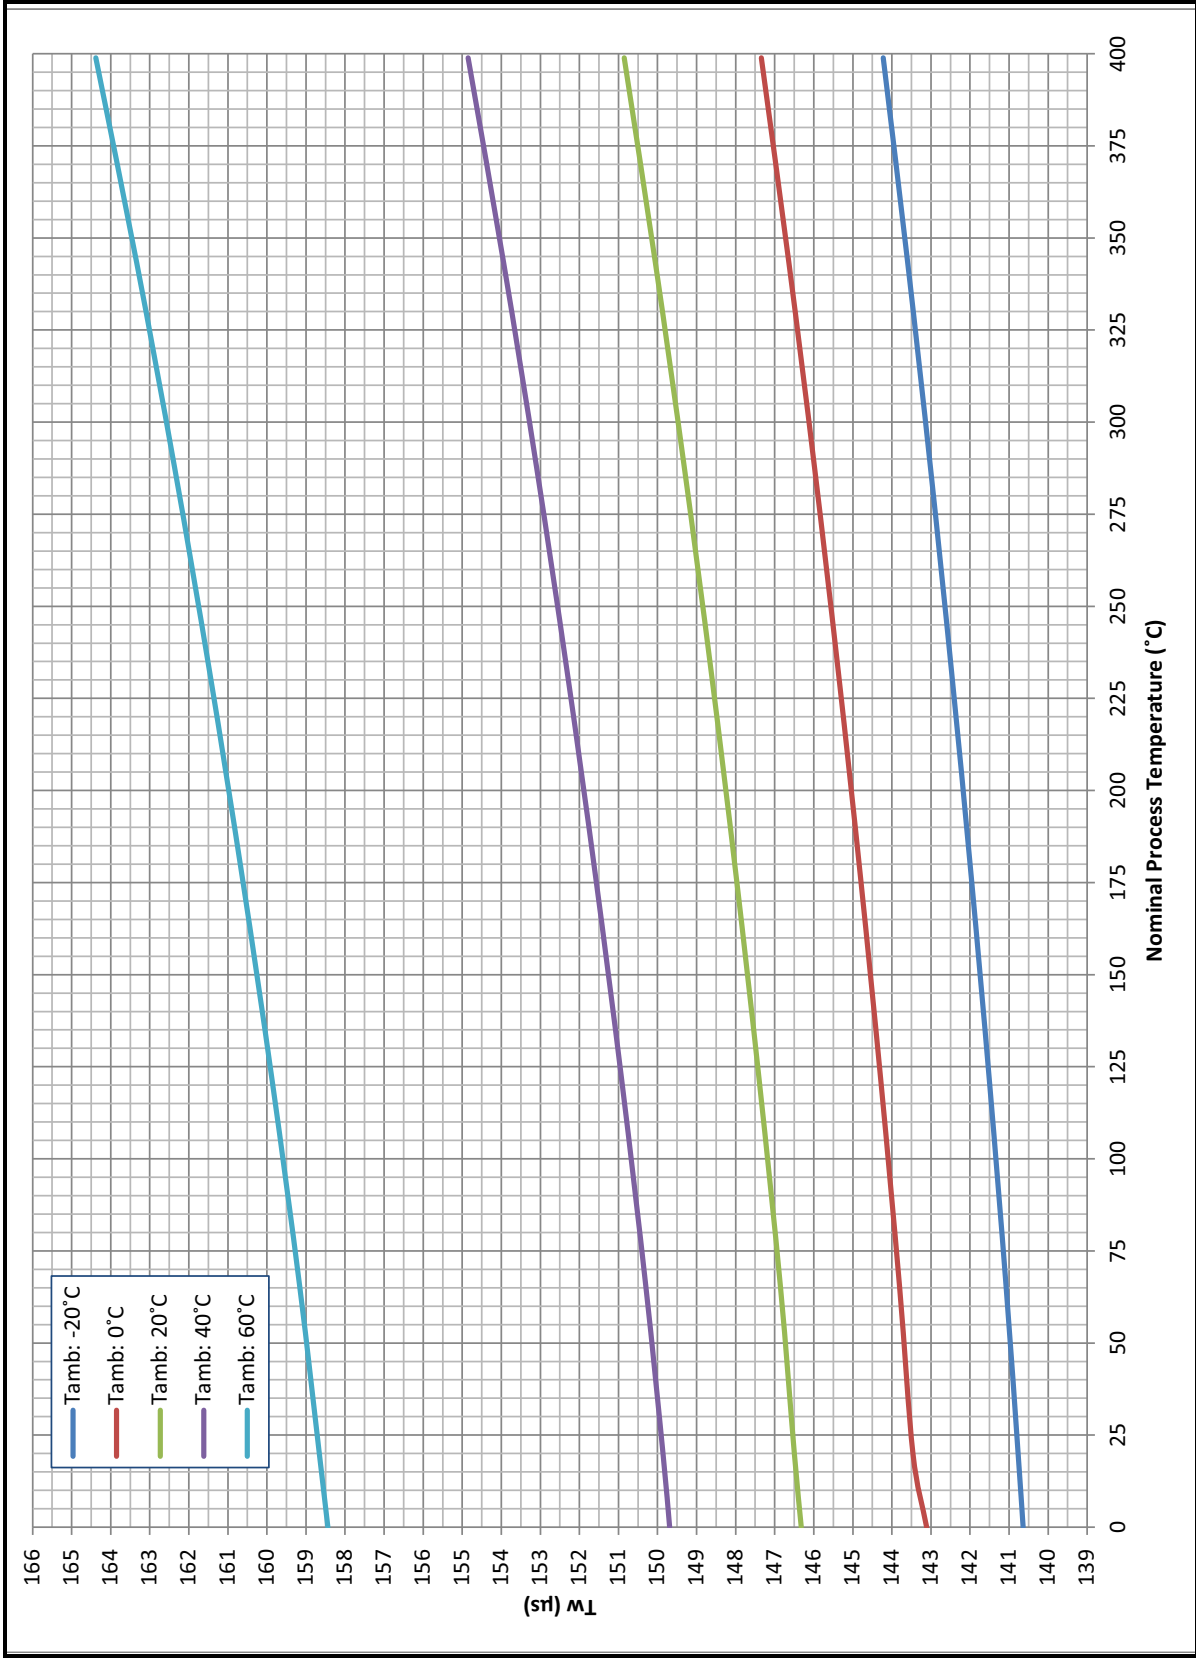
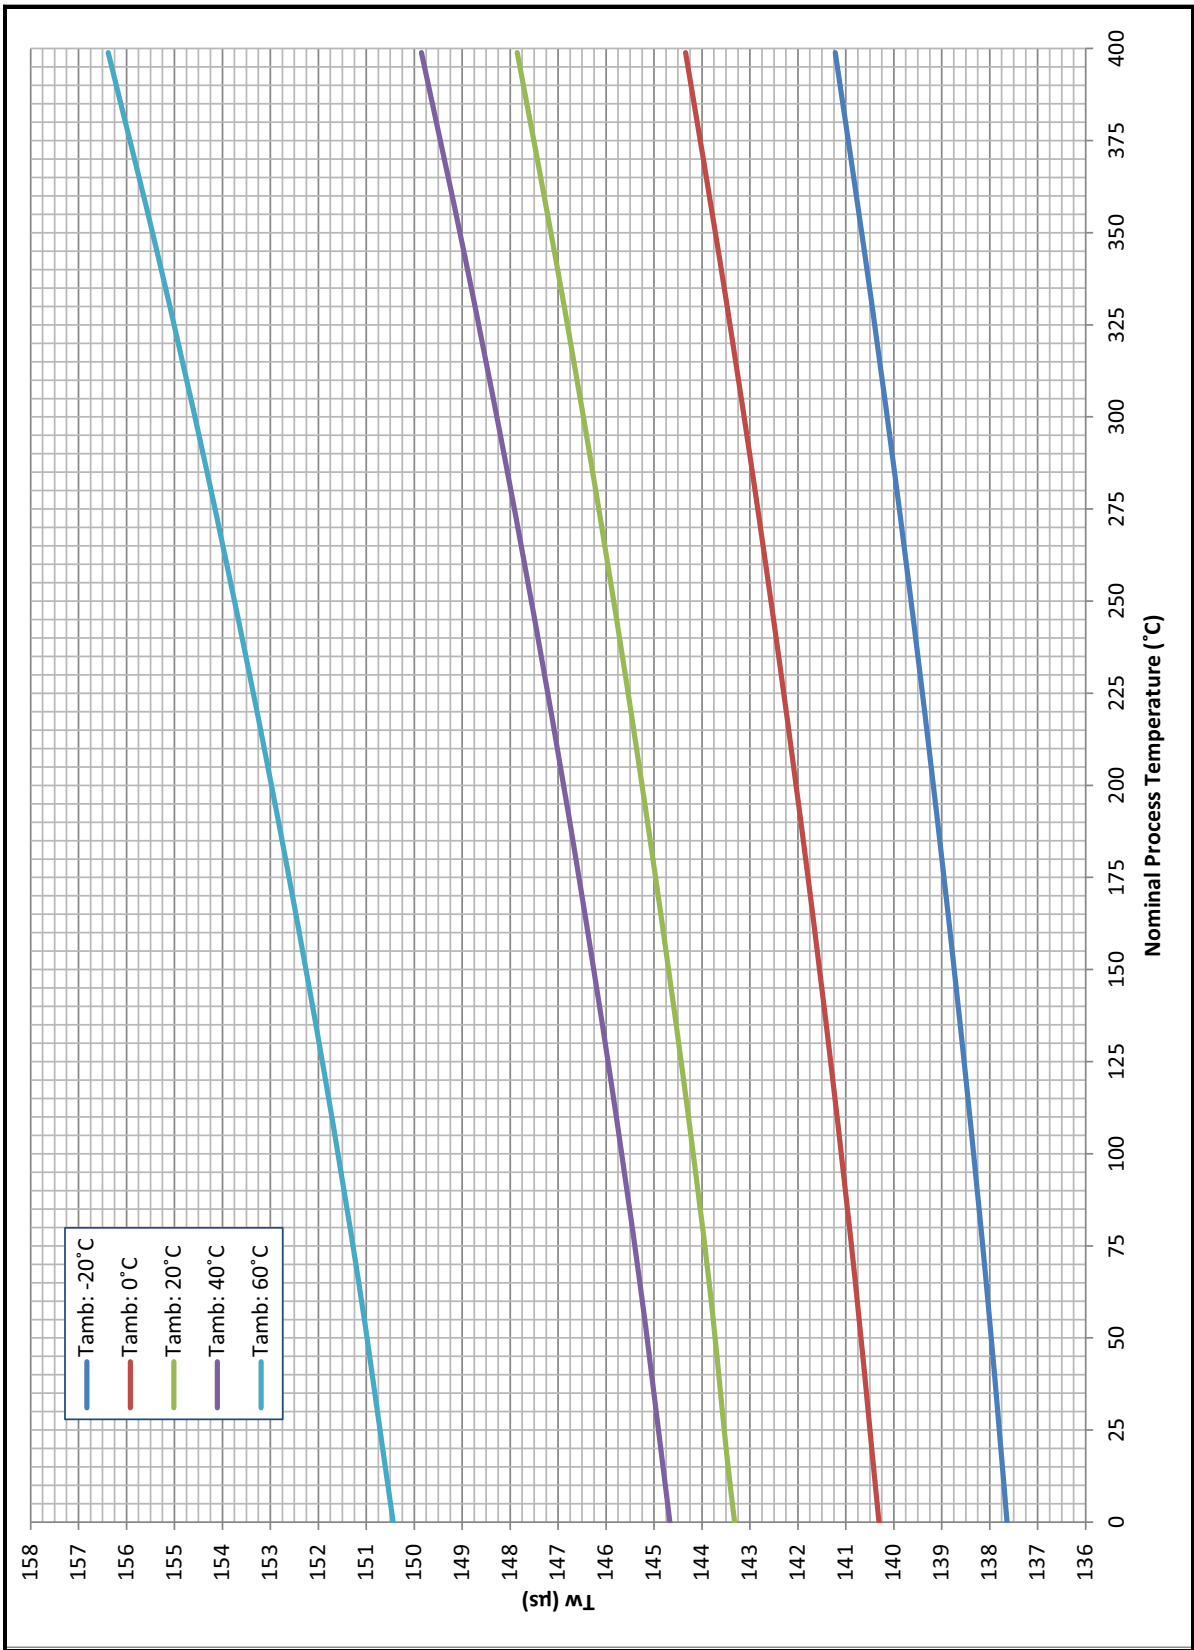

Figure 5: Graph #1:  $T_w$  (0.5 MHz Transducer)
Figure 6: Graph #2:  $T_w$  (1.0 MHz Transducer)
**Tw:** Tw (time in wedge) is determined by the transducer frequency, nominal process temperature, and ambient temperature using Graph #1 (Figure 5 on page 8) or Graph #2 (Figure 6 on page 9) based on the transducer frequency. As an example: